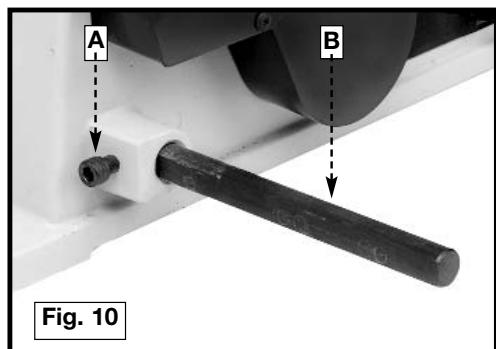

Fig. 10
1. Thread an M8 x 1.25 x 20mm hex socket head screw (A) Fig. 10 partially into the hole in the base of the sander. Insert the rod (B) into the hole. Align the flat of the rod (B) with the screw (A). Tighten the screw (A).